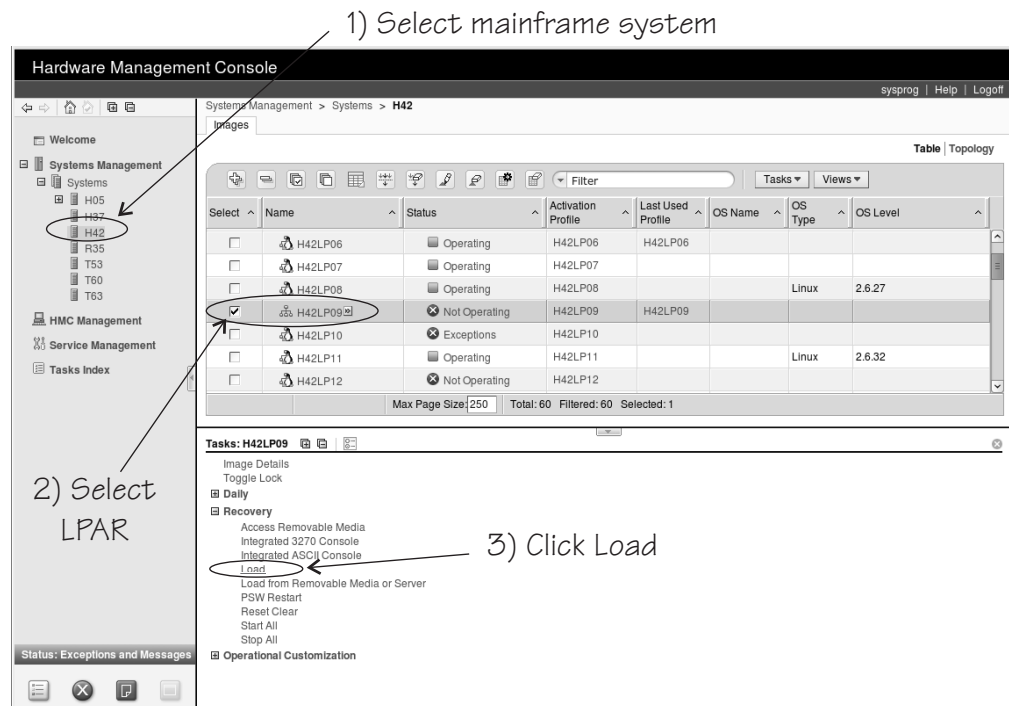

Figure 25. Load task on the HMC
3. In the **Tasks** area, expand **Recovery** and click **Load** (see Figure 25).